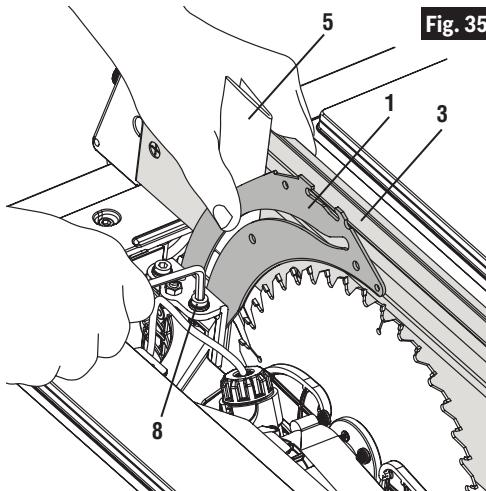

Fig. 35
5. Repeat step 4 with the rip fence **3** on the right of the blade and check with paper spacing gauge **5** (Fig. 35).
6. Place the paper spacing gauge **5** between the riving knife **1** and the rip fence **3** (Fig 35). Hold or clamp Riving Knife and paper firmly against Fence (Fig. 35).